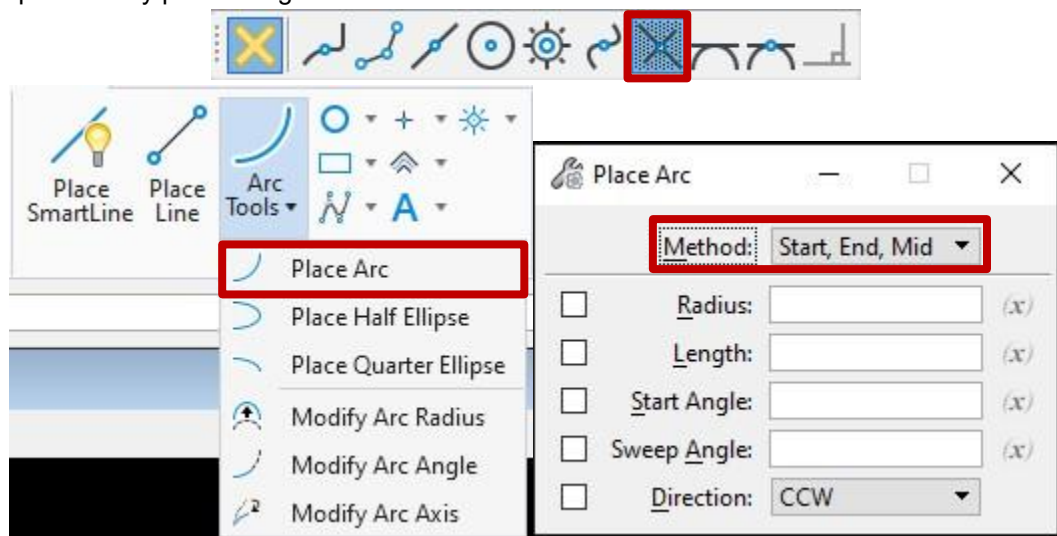
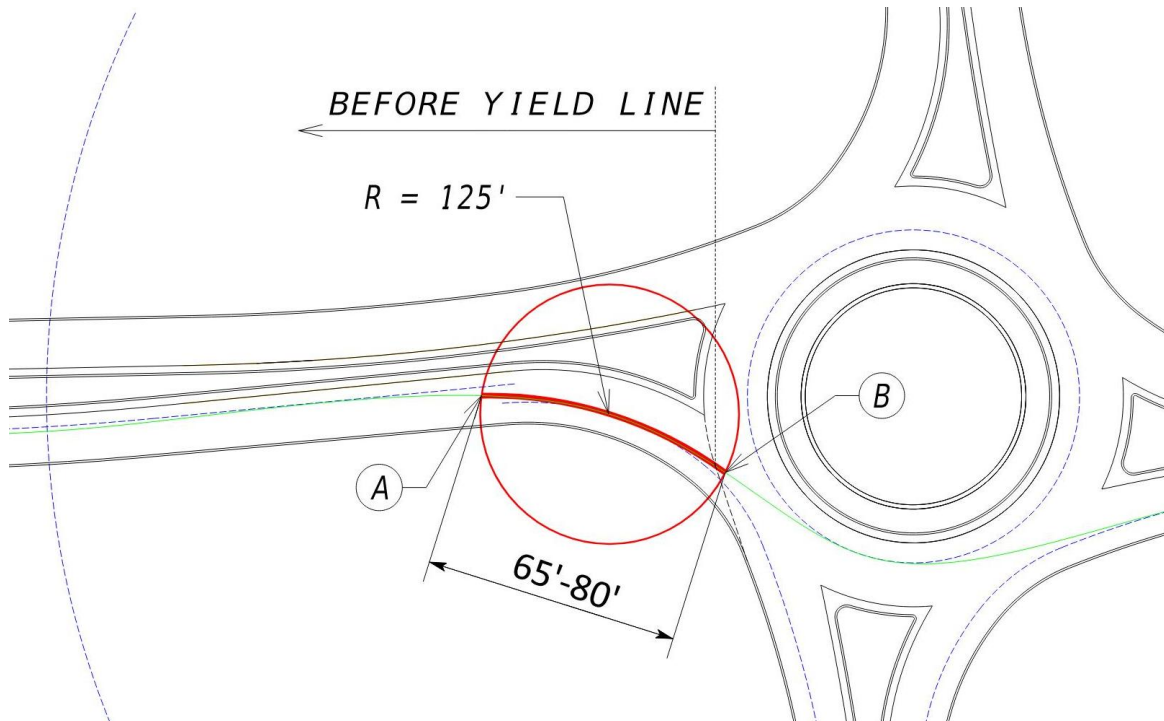

Figure 15 – Drawing the Arc
Figure 16 – Measuring the Radius
2. Place an arc in the circle using the Method of Start, End, Mid as seen in **Figure 15**. Use the Intersect snap to select the points where the Spline crosses the circle labeled Points A and B in **Figure 16** as the start and end. The mid-point should be drawn to closely match the spline without crossing the spline at any point along the radius.
As an example, as seen in **Figure 16**, assume a measured R1 value of 125-feet. Equations 9.3 and 9.4 from would be applied as: